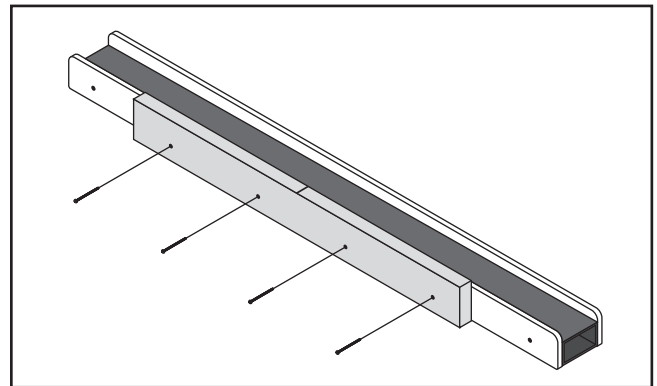

Figure 21. Attaching support board.
- Attach the support board to the fence with the #10-24 x $2\frac{1}{2}$ " Phillips screws included with the kit, as shown in **Figure 21**.